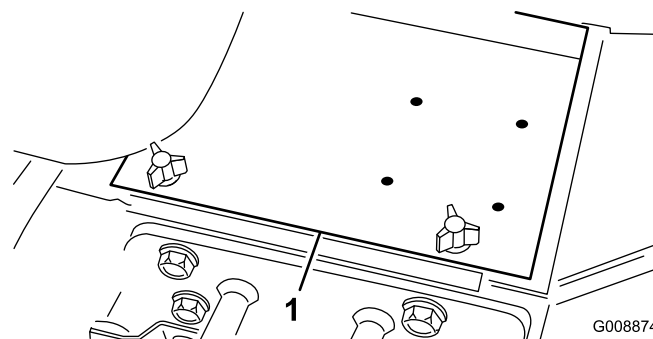

Figure 4
- Remove the battery cover (Figure 4).